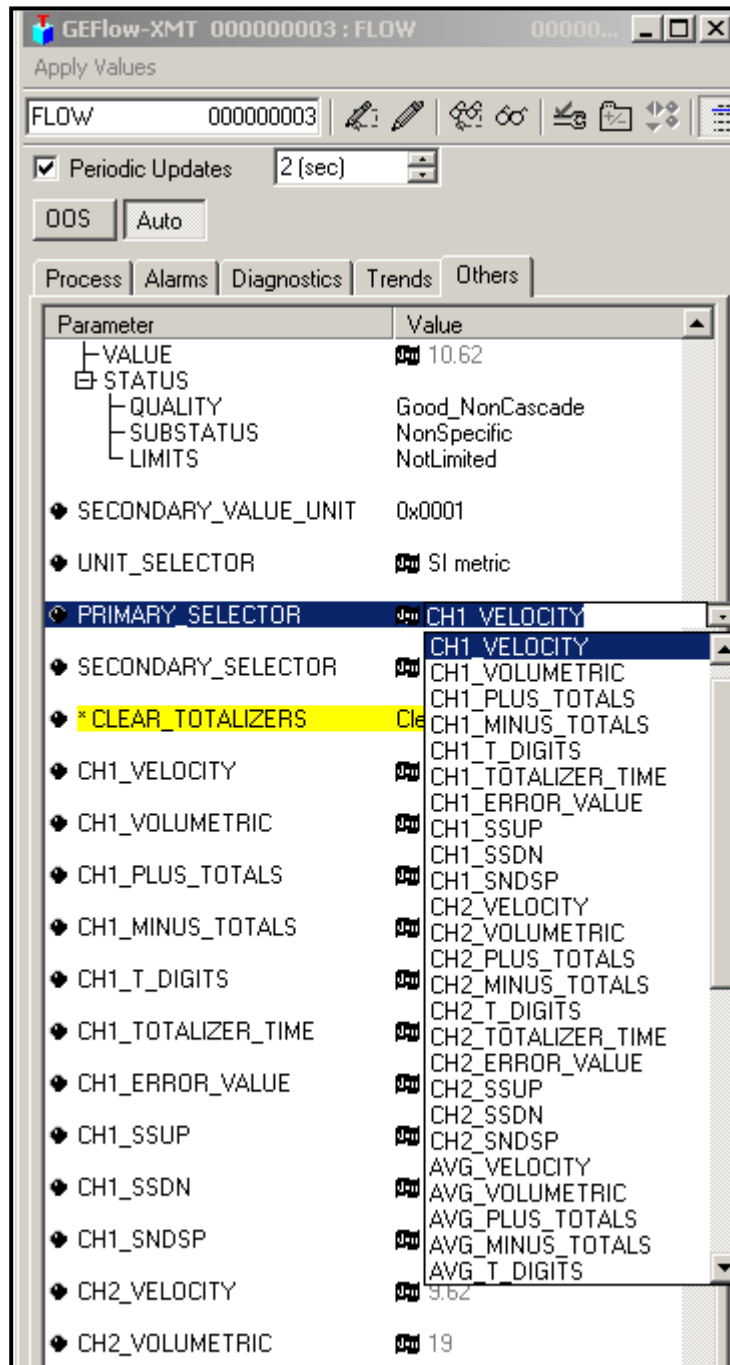

Figure 40: Primary Selector Drop Down List
2. Select the Others tab and open the drop down list for the PRIMARY_SELECTOR and SECONDARY_SELECTOR (refer to Figure 40 on page 109).
3. Choose the unit from the list (see Figure 40 on page 109).